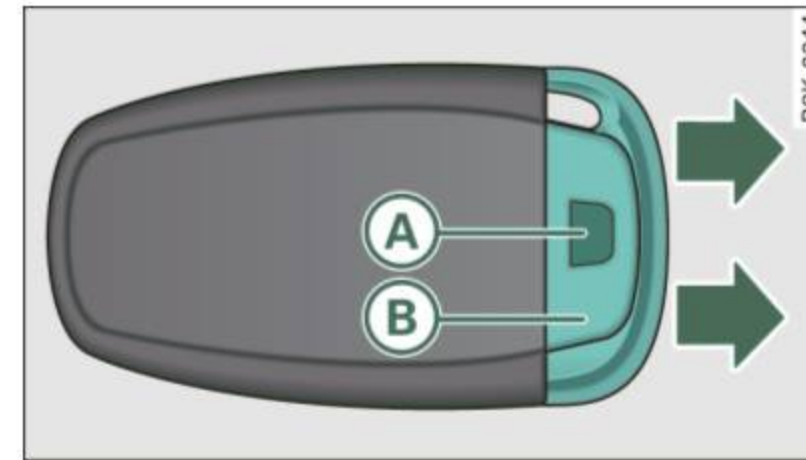
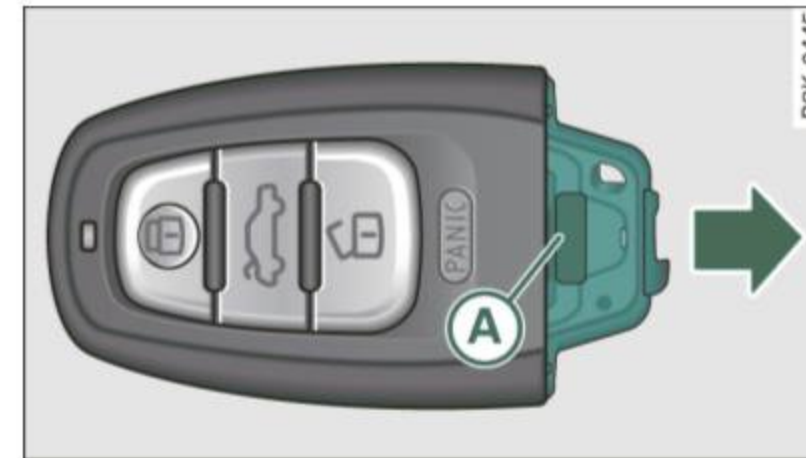

Fig. 33 Remote master key: Removing the mechanical key
Fig. 34 Remote master key: Removing the battery holder
- Press the release button (A) ⇒ fig. 33.
- Pull the mechanical key (B) out of the master key.
- Press the release button (A) ⇒ fig. 34 on the battery holder and at the same time pull the battery holder out of the master key in the direction of the arrow.